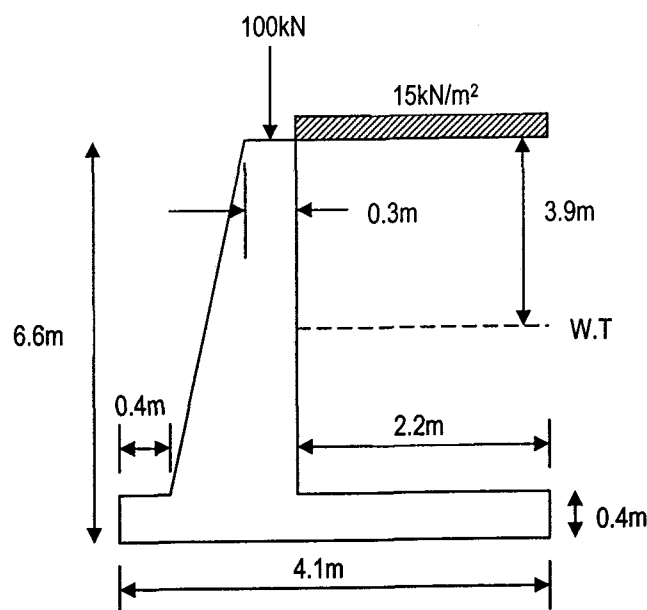

Figure 2(c)
5. (a) For the stressed elements given in Figure 2(a) & 2(b), draw the respective Mohr Circles describing the stress arrangements. In each of the Mohr Circle, determine also the 'POLE'.
5. (c) Details of a frictionless reinforced concrete cantilever retaining wall are shown in Figure 2(c), the unit weight being  $23.5\text{kN/m}^3$ . Due to inadequate drainage, the water table has risen to the level indicated. Above the water table, the backfill soil is sand with the unit weight of  $17\text{kN/m}^3$  and the soil friction is  $38^\circ$ . For the soil below the water table, the saturated unit weight is  $20\text{kN/m}^3$ . The angle of friction between the base of the wall and foundation soil is  $25^\circ$ . Point load acts in the middle of the top stem of the wall. ( $\gamma_w = 9.8\text{kN/m}^3$ ).